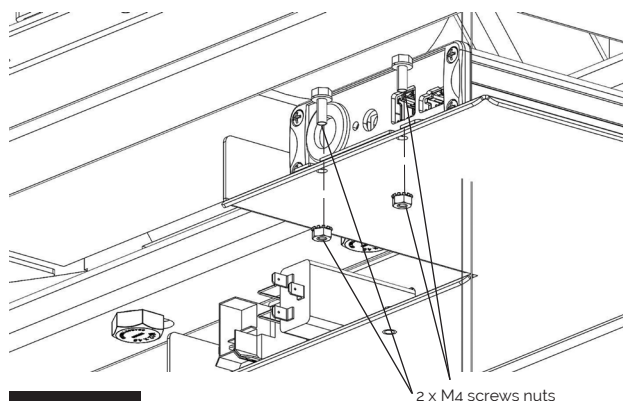

FIGURE 2
4. Remove two M4 screws and nuts from inside, see fig: 2